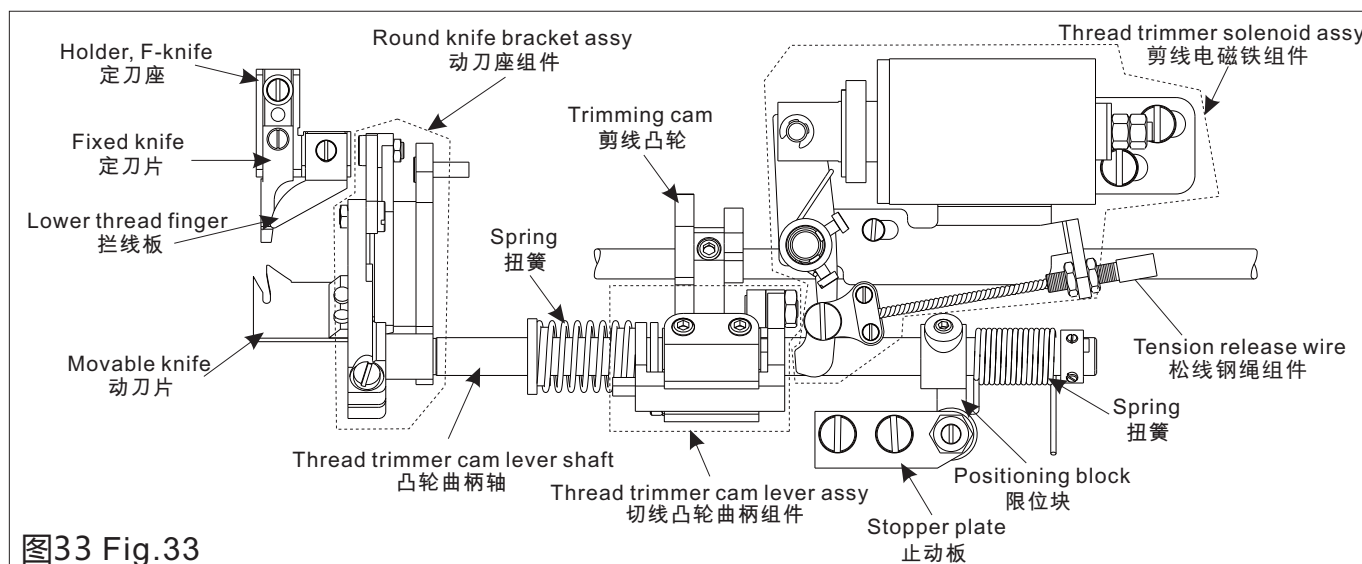

图33 Fig.33
1.剪线装置(图33) Trimming mechanism (Fig.33)